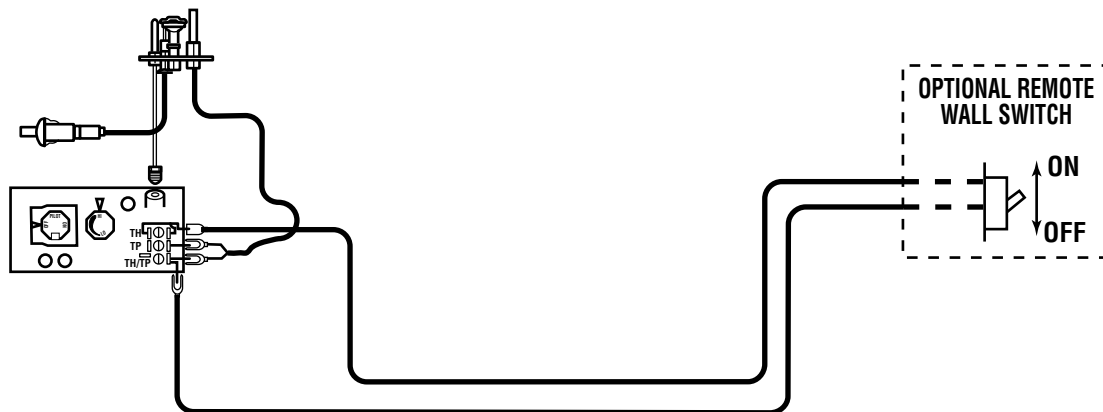

Figure 33 - Wiring Diagram for Wall Switch
A remote wall switch and up to fifteen (15) feet of 18 Ga. wire may be used with this appliance. Attach the wall switch in a junction box at the desired location on the wall. *Figure 33.* Do not extend beyond the wall switch wire length provided.